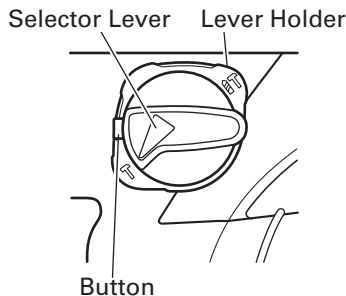

Fig. 8
- (1) Switching to “hammering”
- (b) Align ▲ of the selector lever and ▼ of the lever holder as illustrated in Fig. 8.